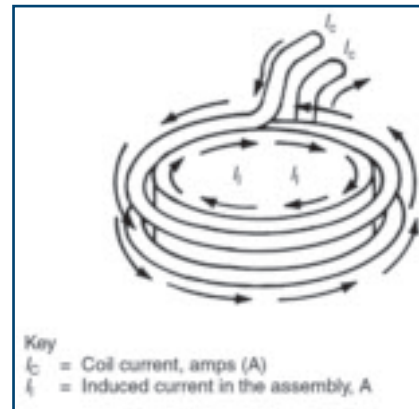

Fig. 1 — Induced current, ( $I_i$ ), produced by an electromagnetic field in a conducting assembly. (*Brazing Handbook*, 5th edition, Fig. 13.1.)
Having said this, I have seen it used successfully. Induction heating is chosen where rapid and localized heating is desired. In the case of stainless steel for example, induction is often selected over torch brazing to minimize heat discoloration and the resultant cleaning effort. The location heated and amount of heat used can be carefully controlled. Heating is achieved by resistance to the flow of an induced current in the components to be brazed. A basic process requirement is that the components be electrical conductors. The induced current is produced by placing the parts in an electromagnetic field created by an alternating current (AC) flowing in an induction coil. Figure 1 (taken from the *Brazing Handbook*, 5th Edition, Chapter 13, Fig. 13.1), shows a typical induction coil and the flows of current. In this example, the parts to be brazed would be placed inside the circular coil.